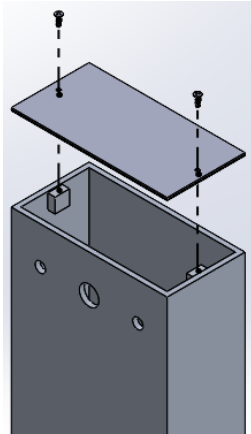

Fig. 1
- Remove the two pan head screws #8-32 x 1/2" and the pole cap located on top of pole. **Fig. 1**